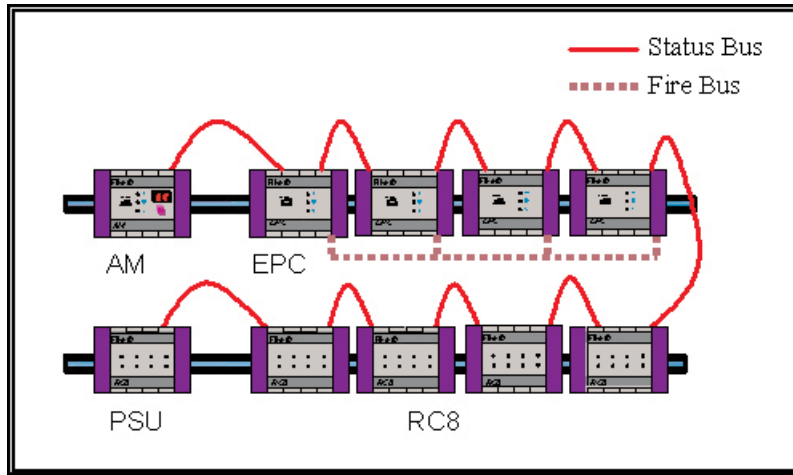

Figure 1: Single Loop Schematic Representation of EPACO Bus Network
The Annunciator Module (AM) is a local call-in point for all connected devices of a bus. In figure 1, a full setup is shown with the maximum number of each type of component that can compose a ‘Single Loop.’ In practical terms, a loop collects explosion protection controls of a larger protected area containing two or more connected vessels that are being protected.